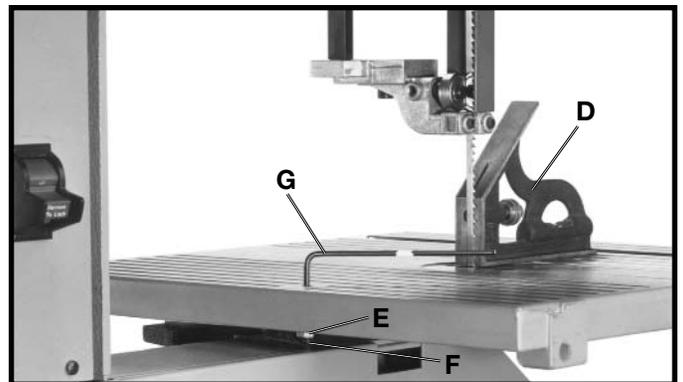

Fig. 26
A positive stop is provided to insure that the table is returned 90 degrees to the blade after tilting. Place a square (D) Fig. 26, on the table and against the blade and check to see if the table is 90 degrees to the blade as shown. If an adjustment is necessary, loosen lock nut (E) and turn screw (F) with wrench (G) until table surface is 90 degrees to blade, and screw (F) is contacting the frame. Then tighten locknut (E).